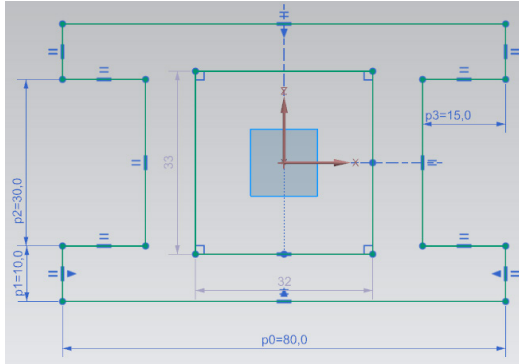

Figure 3-27 The sketch after drawing the inner loop and turning on the display of constraints
5. Move the cursor vertically upward and click to specify the third point; the rectangle is created, refer to Figure 3-27. Press Esc to exit the tool.